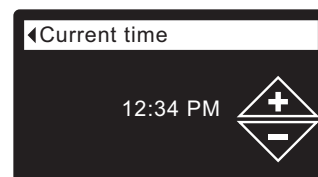

FIG. 100
5. Press the SELECT (O) button to display the Current time screen (See Figure 100).